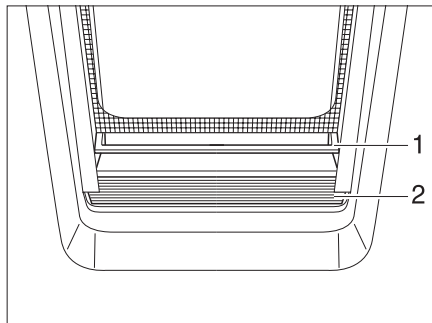

Fig. 28 Roman shade
- Grip the Roman shade (Fig. 28,2) in the middle of the holding bar (Fig. 28,1), pull it upwards and then release it at the desired height. The Roman shade will stay at this height.